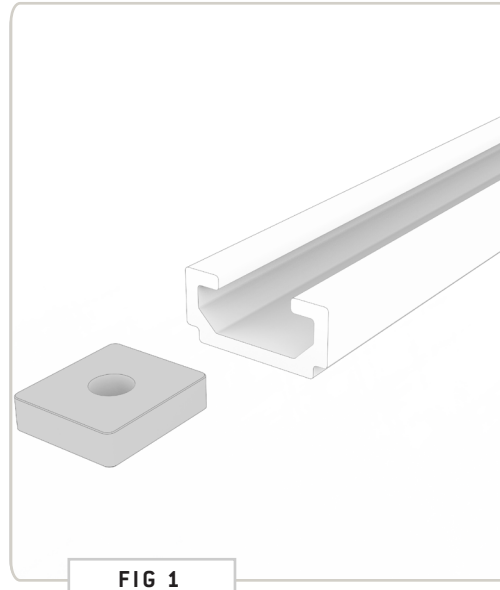

FIG 1
1.1 Install Rail Nuts: Slide half of the **Rail Nuts** into the passenger side factory roof rail, and the half of them into the driver side rail (**FIG 1**).